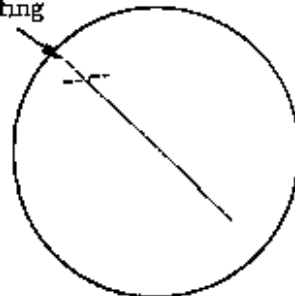

Figure 22
- () Now return both the VERTICAL and HORIZONTAL gain controls to the CCW position and readjust the centering controls (if necessary) to position the beam in the center of the screen. Set the FREQUENCY switch to the INTERNAL SYNC 500-5000 position and the fine FREQUENCY control to the center of its range. Set the VERTICAL Attenuator switch to the AC X1 position, and the HORIZONTAL Attenuator switch to the AC X10 position. Turn the unit OFF and connect a lead between the red vertical input binding post and the center lug of the Sweep Positioning control. Turn the unit ON, and after warmup, adjust the VERTICAL and HORIZONTAL gain controls until a trace similar to Figure 22 appears. Adjust the horizontal attenuator trimmer capacitor nearest the front panel to provide the straightest line.
- () Now set the HORIZONTAL attenuator switch to the AC X100 position and readjust the gain controls to provide a trace similar to Figure 22, as before. This time adjust the horizontal attenuator trimmer farthest from the front panel to provide the straightest line.
- () Return the gain controls to the CCW position and set the HORIZONTAL attenuator switch to the AC X1 position. Set the VERTICAL attenuator switch to the AC X10 position. Again, adjust the gain controls until a trace similar to Figure 22 appears. Adjust the vertical attenuator trimmer capacitor nearest the front panel to provide the straightest line.
- () Now set the VERTICAL attenuator switch to the AC X100 position and readjust the gain controls to provide a trace similar to Figure 22. This time adjust the vertical attenuator trimmer farthest from the front panel. Now remove the lead.